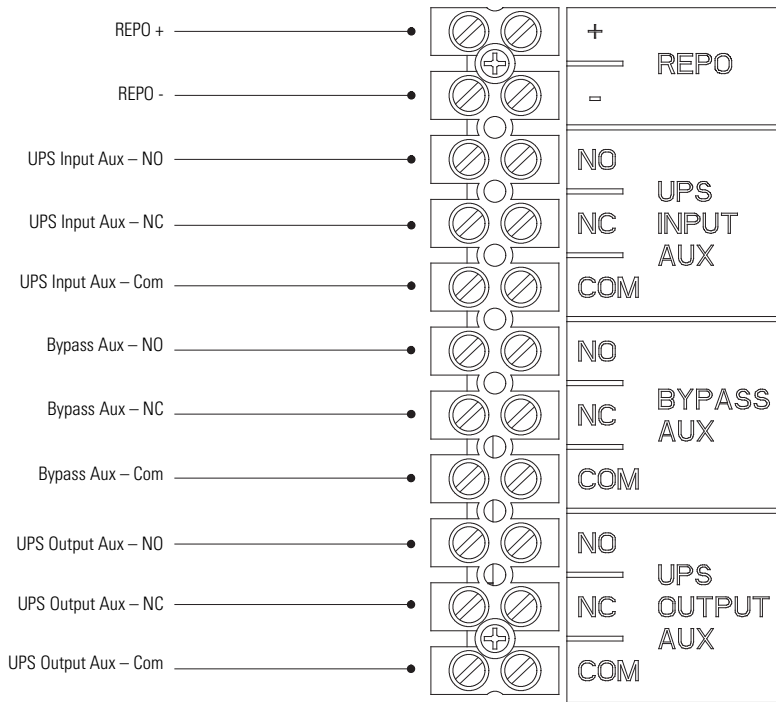

Figure 17. Breaker Aux and REPO Terminals Detail
6. Connect the facility equipment to the aux terminals. See Figure 17 on page 24 for terminal locations, and Table 3 and Table 4 for aux wiring.